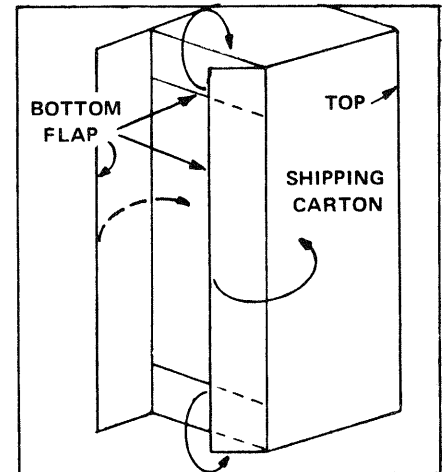

FIGURE 11-1 Tip the carton on end.
- A. SLOWLY tip the carton up on end (see FIGURE 11-1), and open the BOTTOM of the carton as shown in the Figure.
- B. Fold ALL Bottom Flaps flat against the side of the carton as indicated by the arrows in FIGURE 11-1.